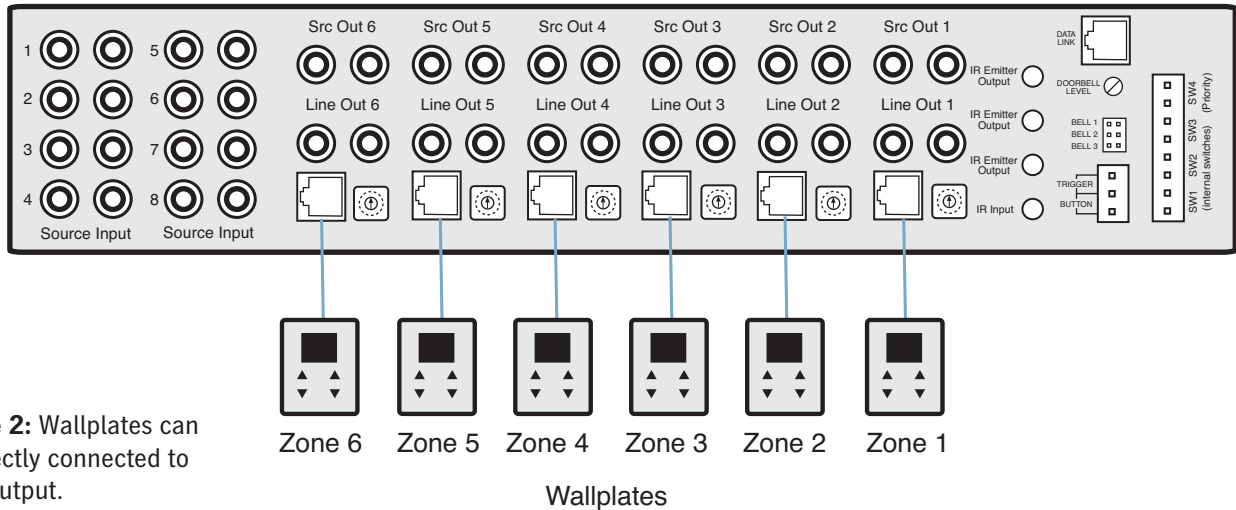
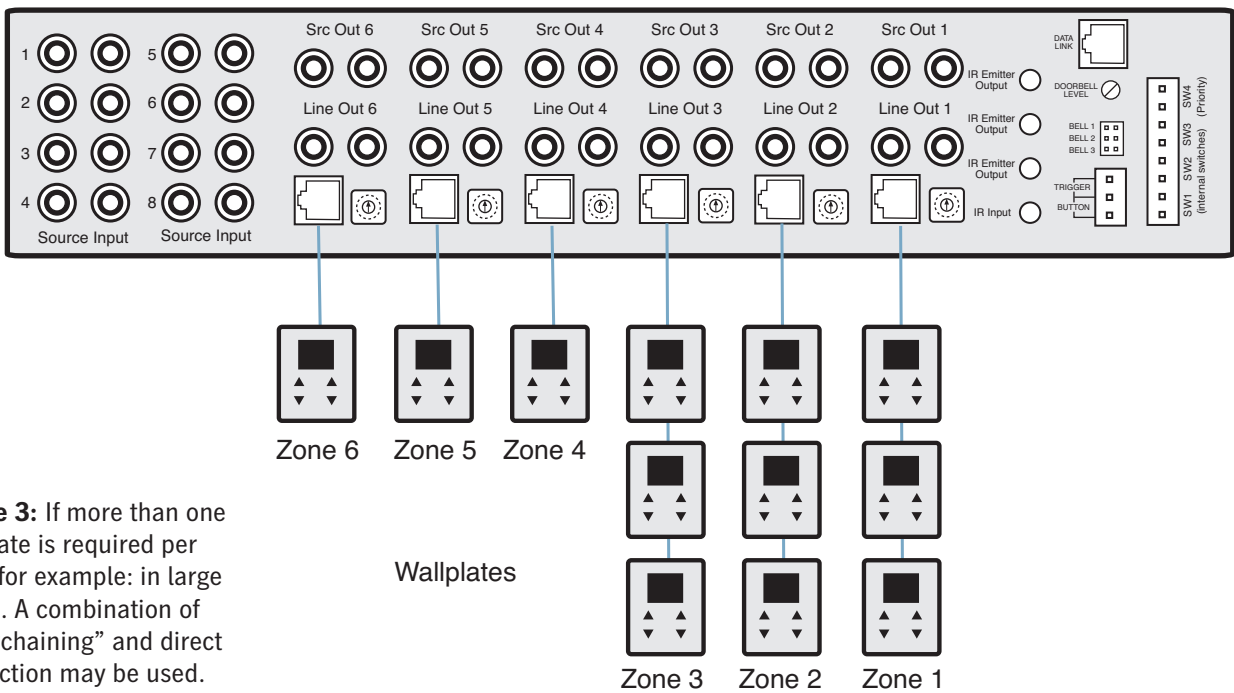

Figure 2: Wallplates can be directly connected to each output.
Figure 3: If more than one wallplate is required per zone, for example: in large rooms. A combination of “daisychaining” and direct connection may be used.
1. Connect the wallplates using figures 2 & 3 as a guide. Figure 3 must be used if more than 1 wallplate is used per zone.
3. Connect input sources to RCA inputs (see fig 2 to 3). This can be any line level RCA audio source ie: CD, DVD, Set top box, Tuner etc.